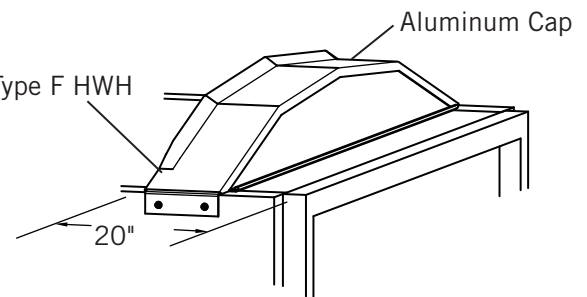

Figure 21
1) Figure 21. Position aluminum rear cap on top rail centered on width, locate the front edge of cap 20" from outside of tailgate.